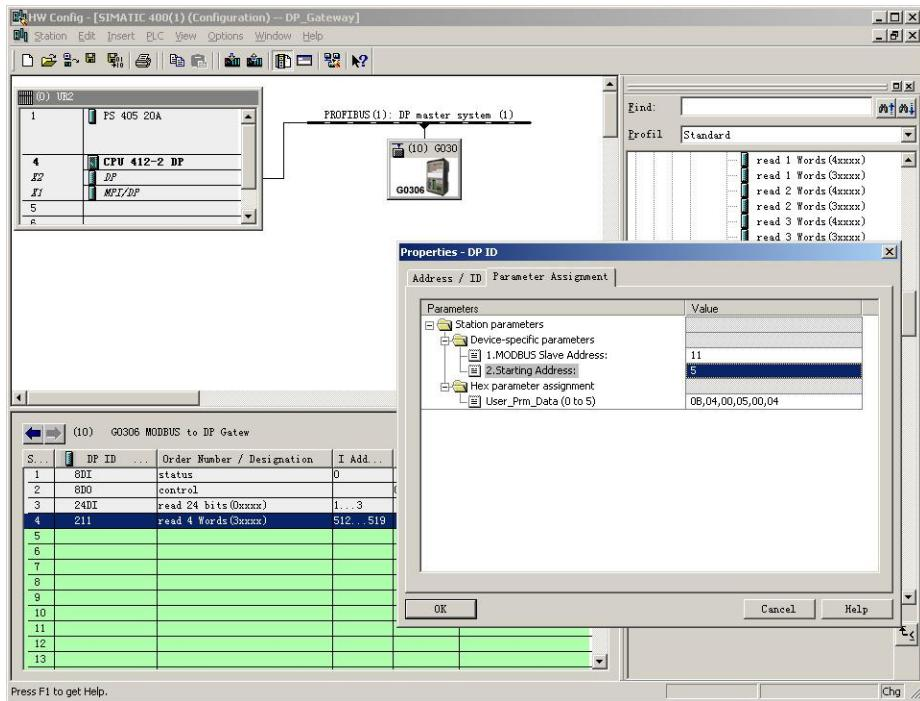

Figure 20 Configuration of“read 4 Words(3xxxx)”Module User Parameter
b) Configuration of “read 4 Words(3xxxx)”module user parameter, as shown in Figure 20
“1.MODBUS Slave Address:”⇒ type MODBUS slave address 11, as shown in Figure 20
“2.Starting Address:”⇒ type will-read register 3xxxx’s starting address 30006 and set address as 5⇒“OK”, shown in Figure 20.